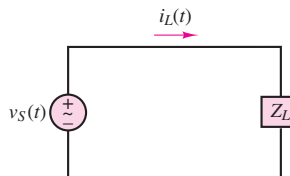

Figure P7.9
- 7.9** For the following numerical values, determine the average power  $P$ , the reactive power  $Q$ , and the complex power  $S$  of the circuit shown in Figure P7.9. Note: phasor quantities are rms.
- 7.10** For the circuit of Figure P7.9, determine the power factor for the load and state whether it is leading or lagging for the following conditions:
**7.11** For the circuit of Figure P7.9, determine whether the load is capacitive or inductive for the circuit shown if